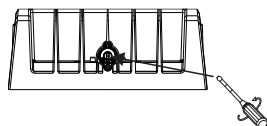

Fig. 13
- 1.) Remove the grommet on top of the housing (**Fig. 13**).